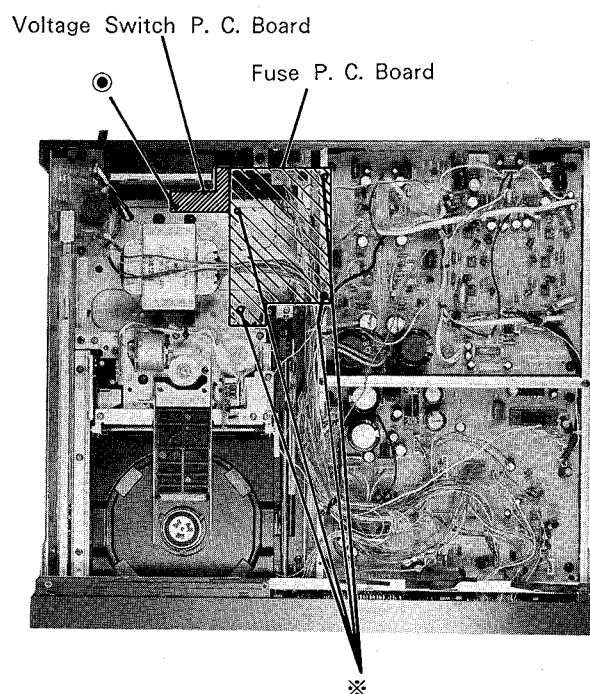

Figure 14
- (1) Removal four screws marked "※" as shown in Figure 14.
- (2) Disconnect all wires from Fuse P.C. Board.
- (1) Remove a screw marked "◎" as shown in Figure 14.
- (2) Disconnect all wires from Voltage Switch P.C. Board.